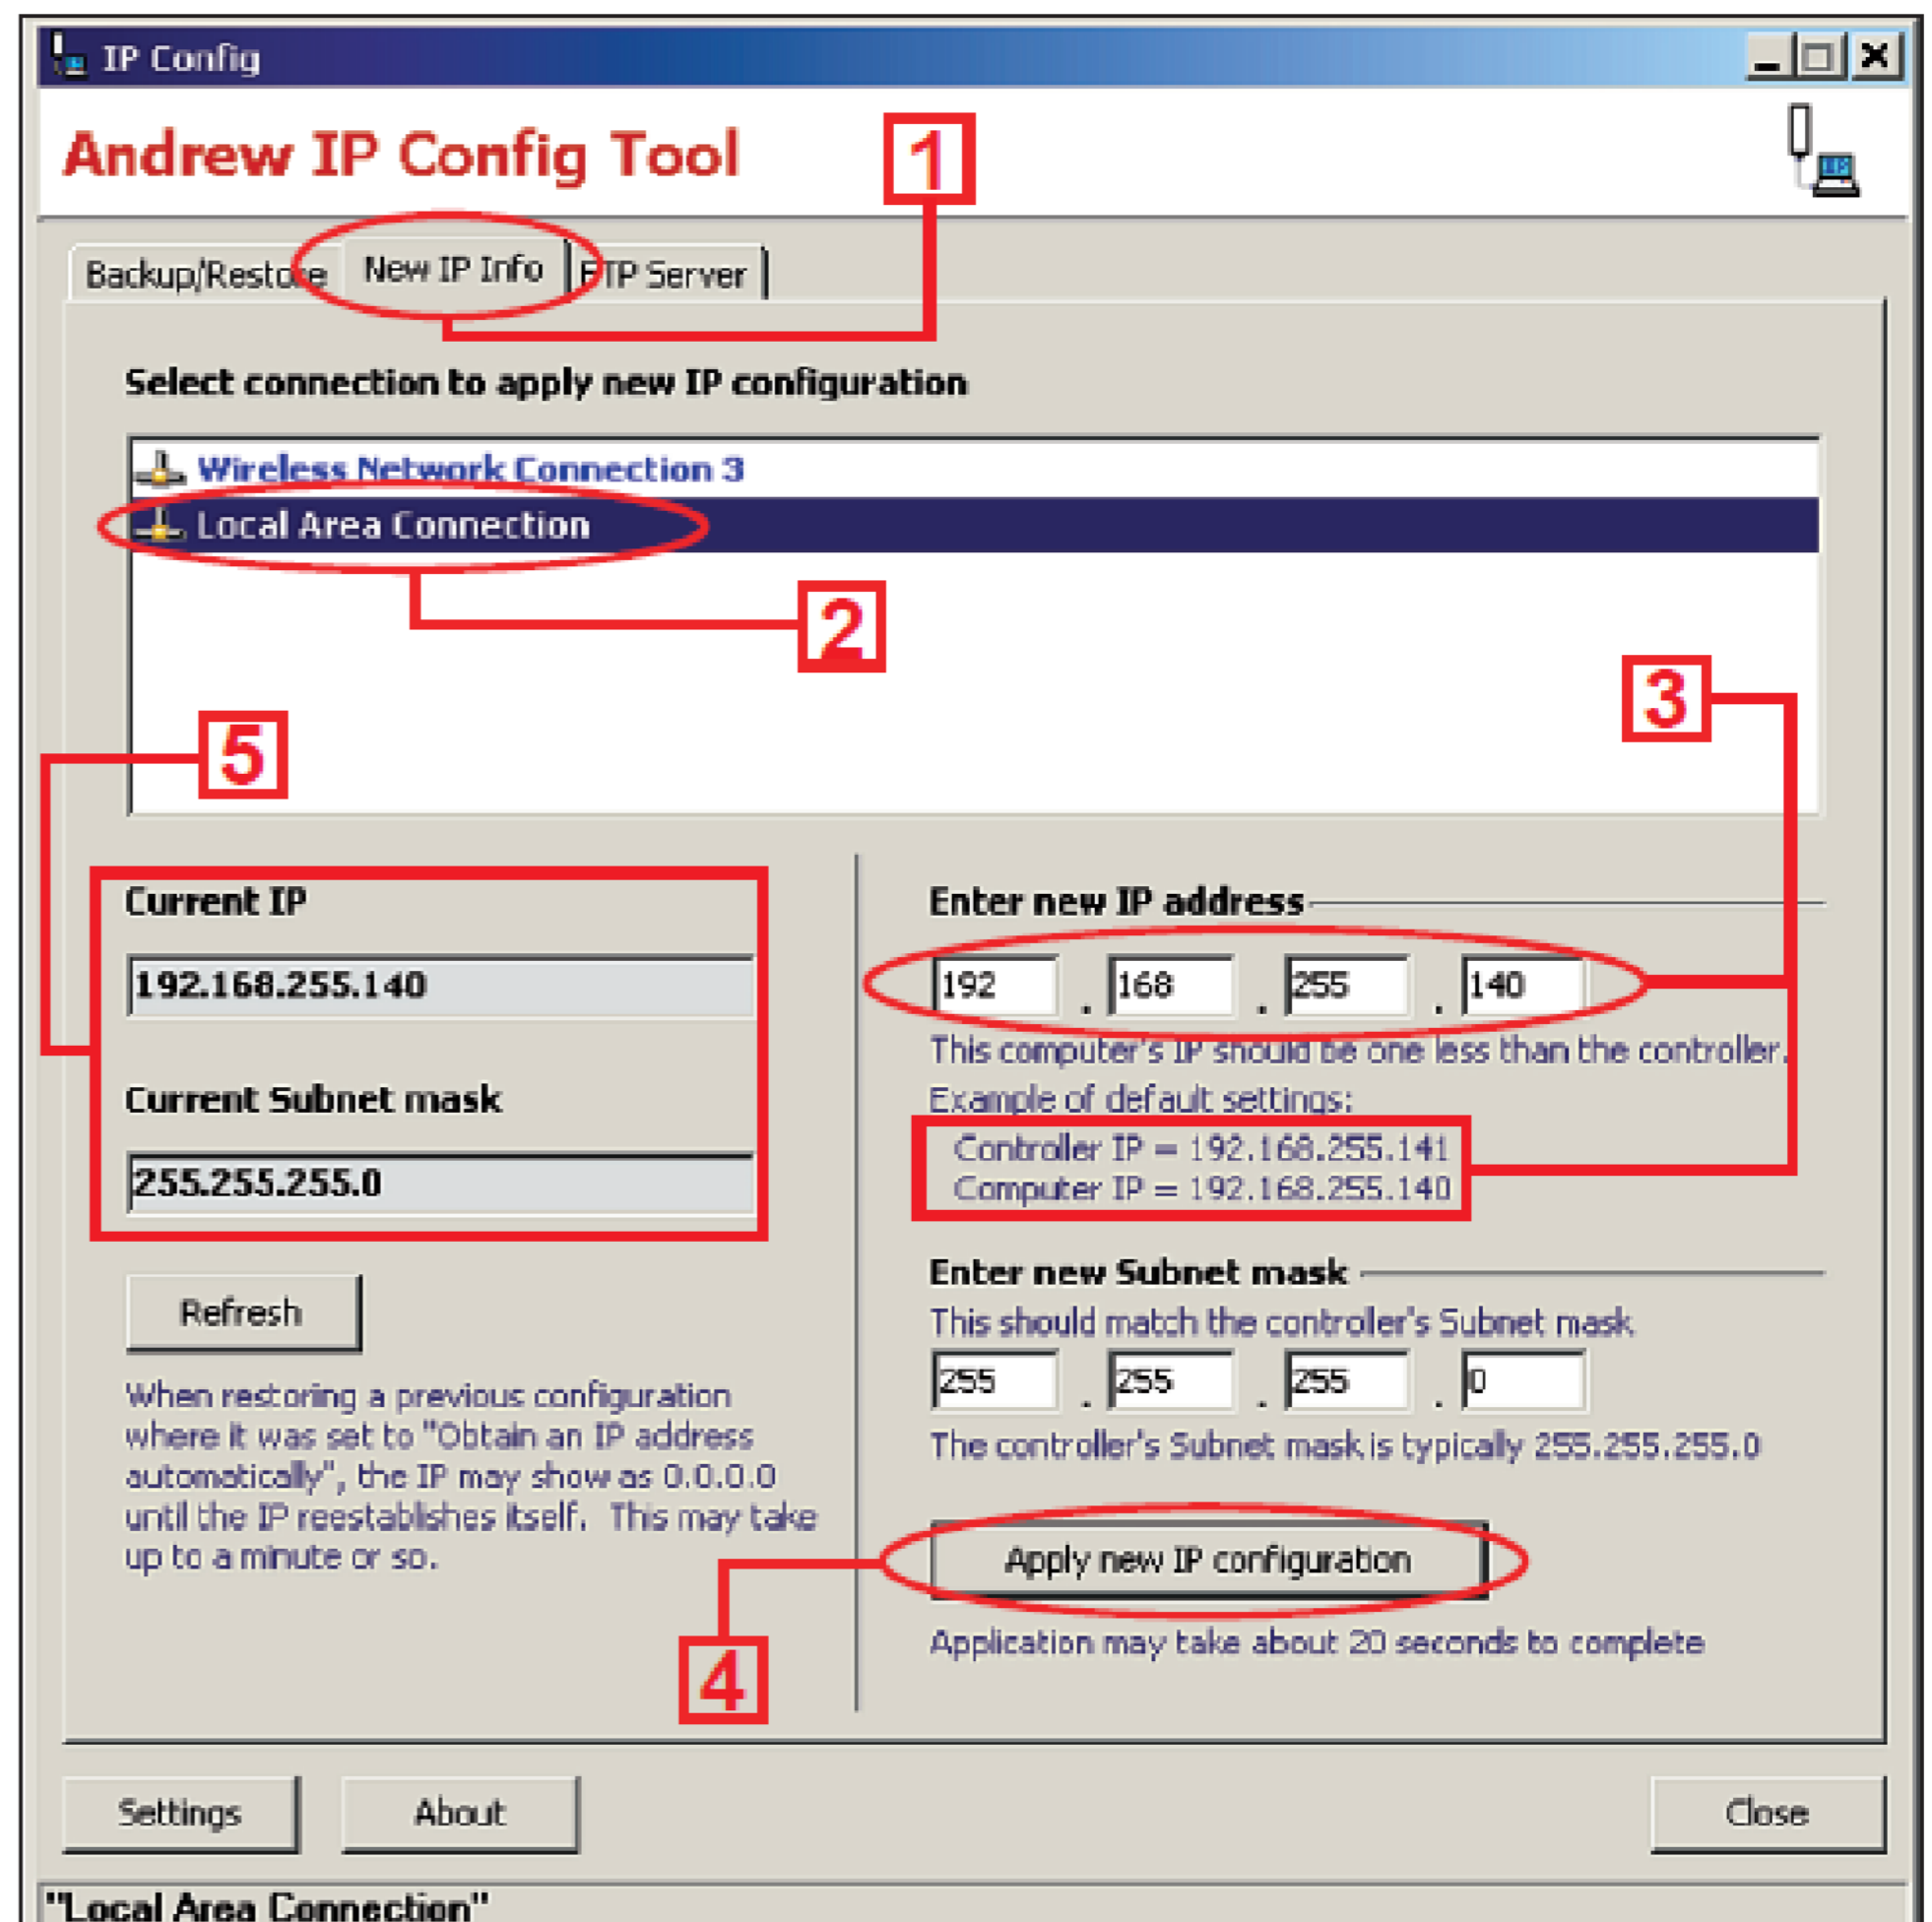

Figure 2-1. Using The IP Config Tool To Connect The Controller To The Network.
- To temporarily change the IP settings on the local PC/laptop, follow these steps (Figure 2-1):